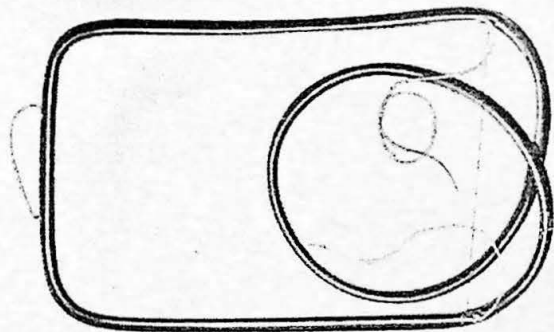

Fig. 27.
2. Fit one of the panes in its rubber weatherstrip and lay the cord in the groove in front of the guide edge of the bodywork. See Fig. 27.